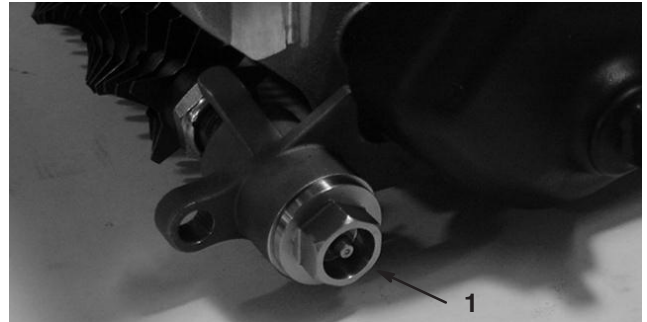

Figure 41
10. On left end of cutting unit, remove the cap plug from the groomer housing (Fig. 41).